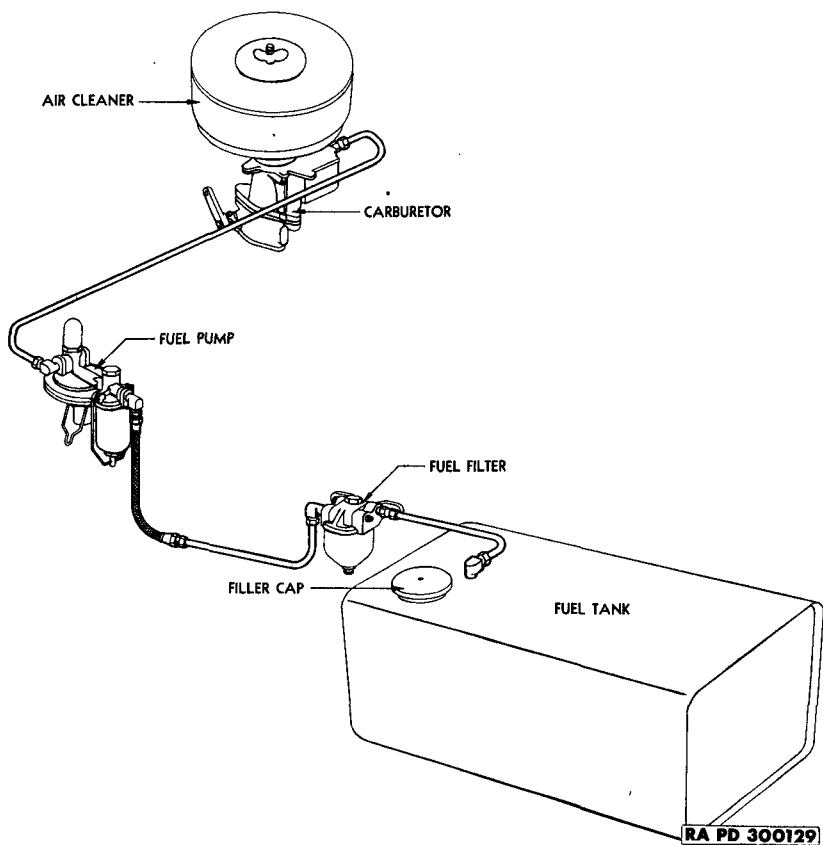

Figure 35—Fuel System Layout
a. **Description.** The fuel system consists of fuel tank, fuel filter, fuel pump, carburetor, governor, air cleaner, and interconnecting fuel lines (fig. 35). In addition to these units, an electrically actuated fuel gage system is provided.
a. **Description.** A metal line conducts the fuel from the tank through the filter to a connector located on the chassis side frame near the fuel pump. A flexible line leads from this connector to the fuel pump inlet fitting. Fuel from the pump to carburetor travels through a metal line (fig. 35).